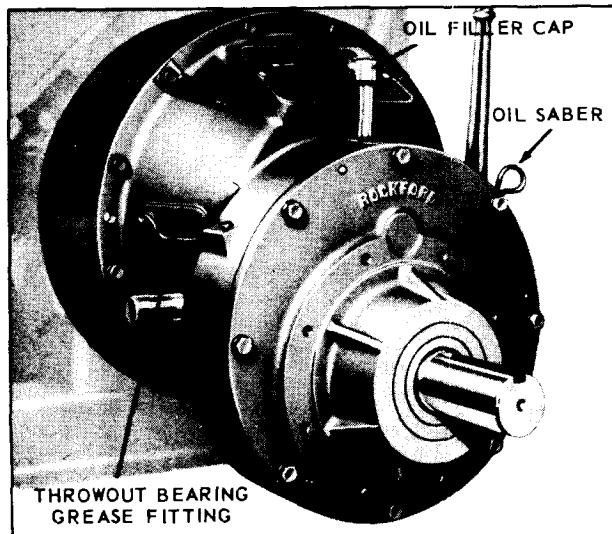

Fig. 21
#### CLUTCH REDUCTION UNIT (Fig. 21)
The **throwout bearing** should be lubricated once a day before starting. Add grease to fitting thru opening on side of housing, as illustrated in Fig. 21, using the
**The reduction unit is operated in oil** and the gear case oil level must be maintained to the oil **saber gauge mark** or **plug opening**, see Fig. 21. In **Twin Disc** units, high grade transmission oil S.A.E. No. 90 to No. 110 Viscosity must be used. For **Rockford** units, use No. 30 S.A.E. crankcase oil. Change oil every 2000 hours of service, while unit is warm.